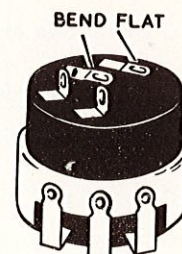

FIGURE 6
- () Refer to Figure 6 and note that on the 500 K Ω control with switch AA, only two of the four switch tags are used. Bend down the other two tags as shown.
- () Using $\frac{3}{4}$ " of sleeving on each end, connect a 22 K Ω resistor (RED, RED, ORANGE) from DD tag 2 (S-1) to solder tag ST (NS).
- () Using 1" of sleeving on each end, connect a 33 K Ω resistor (ORANGE, ORANGE, ORANGE) from CC tag 2 (S-1) to solder tag ST (NS).